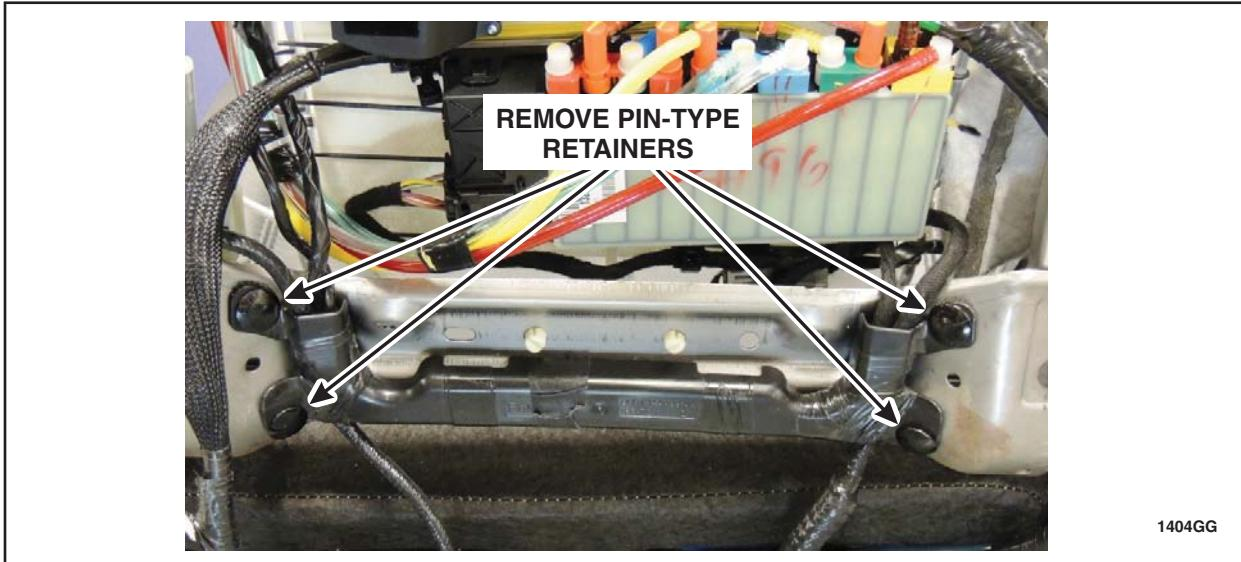

FIGURE 9
12. Remove the main wire harness pin-type retainers from the backrest frame. Position the wire harness away from the backrest frame. See Figure 9.